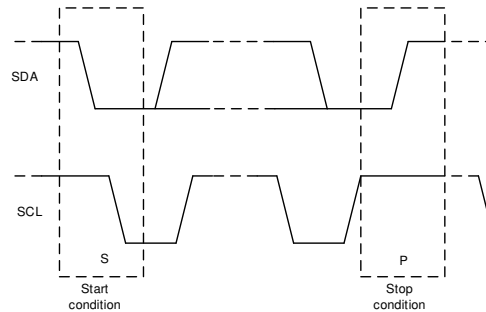

Figure 7. Start and Stop Conditions
1. The master initiates data transfer by generating a start condition. The start condition is when a high to-low transition occurs on the SDA line while SCL is high, as shown in Figure 7. All I²C-compatible devices recognize a start condition.
4. To signal the end of the data transfer, the master generates a stop condition by pulling the SDA line from low-to-high while the SCL line is high (see Figure 7). This action releases the bus and stops the communication link with the addressed slave. All I²C-compatible devices recognize the stop condition. Upon receipt of a stop condition, the bus is released, and all slave devices then wait for a start condition followed by a matching address.